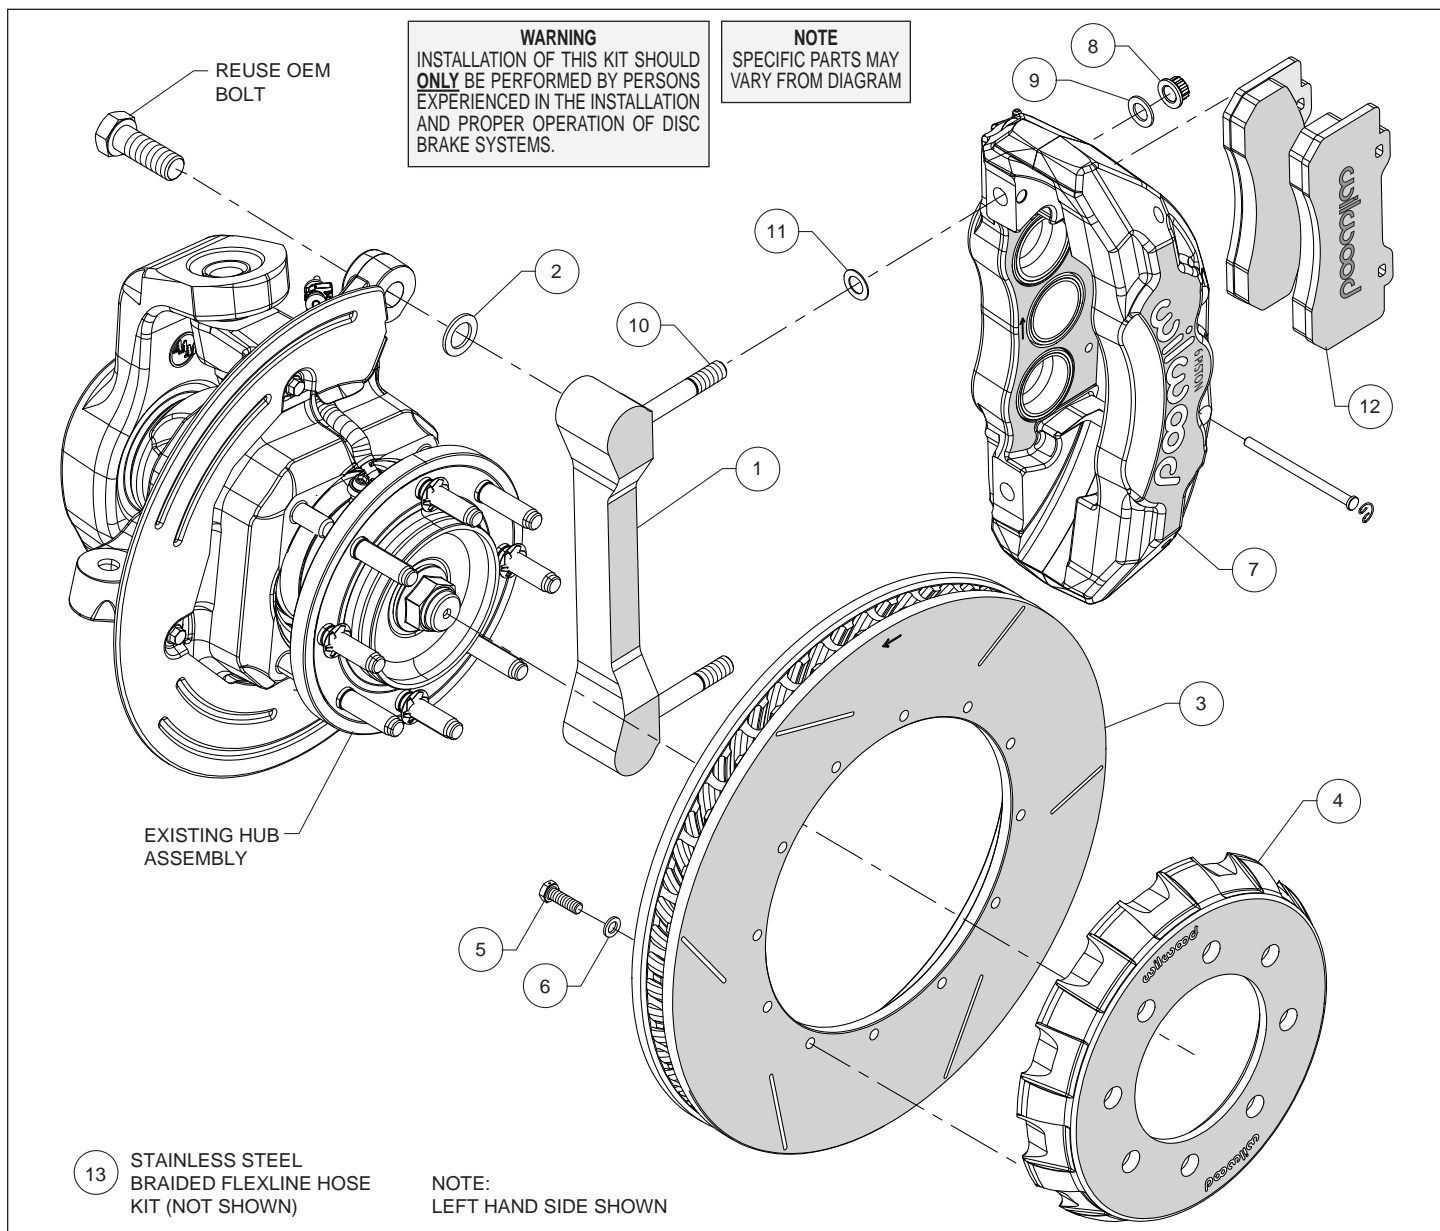
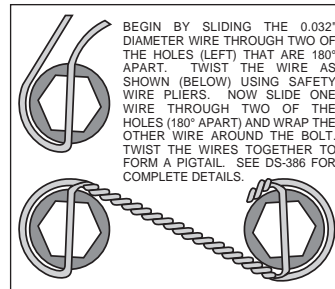

Figure 1. Typical Installation Configuration
Figure 3. Safety Wire Diagram
Assembly Instructions (numbers in parenthesis refer to the parts list and Figure 1 on the preceding pages):
- The caliper mount bracket (1) should initially be installed with clean, dry threads on the mounting bolts. Orient the bracket as shown in Figure 1 and Photo 1, and install using OEM bolts. Initially place one .030 thick shim (2) on each bolt between the bracket and upright, Figure 1. Temporarily tighten the mounting bolts. **NOTE:** *The bracket must fit squarely against the mount bosses on the upright.* Inspect for interference from casting irregularities, machining ridges, burrs, etc. Later, after the caliper alignment has been checked, the mount bolts will be torqued to specification.
- Orient the rotor (3) and the hat (4) as shown in Figure 1 and Photo 2. Attach rotor to hat using bolts (5) and washers (6). Using an alternating sequence, torque to 25 ft-lbs. For an added measure of security, the bolts may be safety wired using standard 0.032 inch diameter stainless steel safety wire as shown in Figure 3. Please refer to Wilwood's data sheet DS-386 (available at www.wilwood.com/Pdf/DataSheets/ds386.pdf) for complete safety wire installation instructions.
- NOTE:** *This kit contains distinct right and left hand calipers that must be mounted in a specific direction, as described below.* Lubricate the caliper mounting studs (10) with lightweight oil. Initially place one .032" thick shim (11) on each stud as shown in Figure 1 and Photo 4. Mount the caliper (7) onto the bracket (1) using lock nuts (8) and washers (9), Figure 1. Ensure that the caliper is mounted so that the largest pistons are at the rotor exit end of the caliper, in relation to the direction of rotor rotation. Temporarily tighten the lock nuts and view the rotor through the top opening of the caliper. The rotor should be centered in the caliper, Photo 5. If not, adjust by adding or subtracting shims (2) between the bracket and the upright. Always use the same amount of shims on each of the two mounting bolts. Once the caliper alignment is correct, torque OEM bolts to 185 ft-lb.